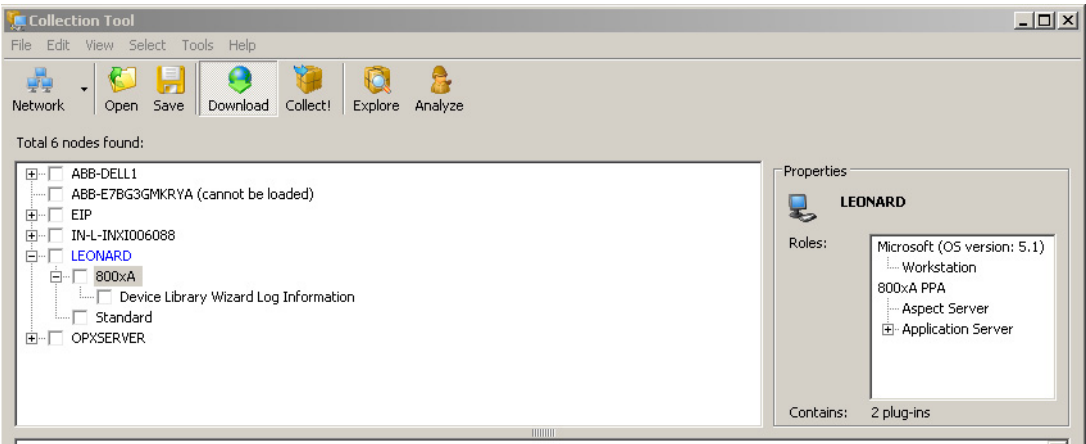

Figure 65. Collection Tool
1. Select the nodes and plug-ins for these nodes from the list. Figure 65 shows the Collection Tool and a number of nodes and plug-ins.
- 2. Once the plug-in list is received, select it and configure them, see Figure 65.
An error message will be displayed next to the node name if the plug-ins cannot be loaded for a node, see Figure 65.